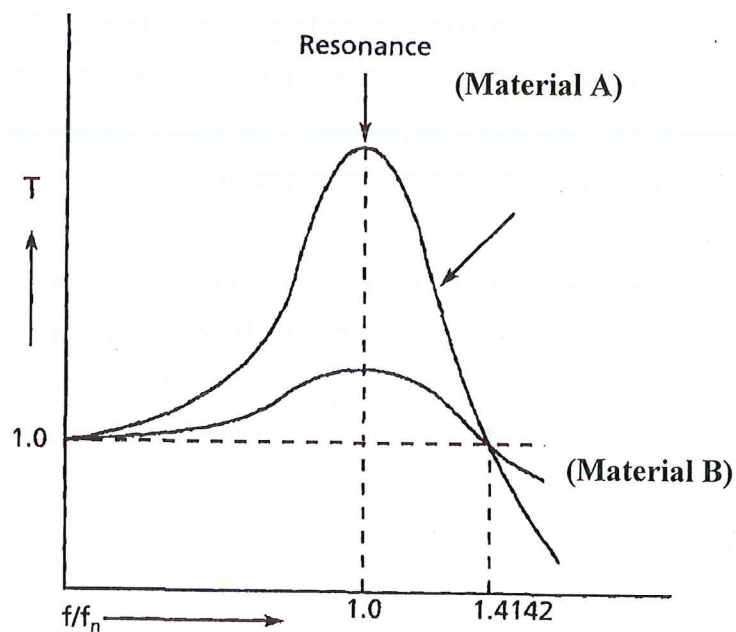

Figure 1: Transmissibility curves of high and low damping rubbers
5. [a] Transmissibility curves of high and low damping rubbers is shown in Figure 1. Discuss the importance of transmissibility parameters at  $f/f_n = 1.0$  and  $1.4142$  and suggest which material has high damping performance.